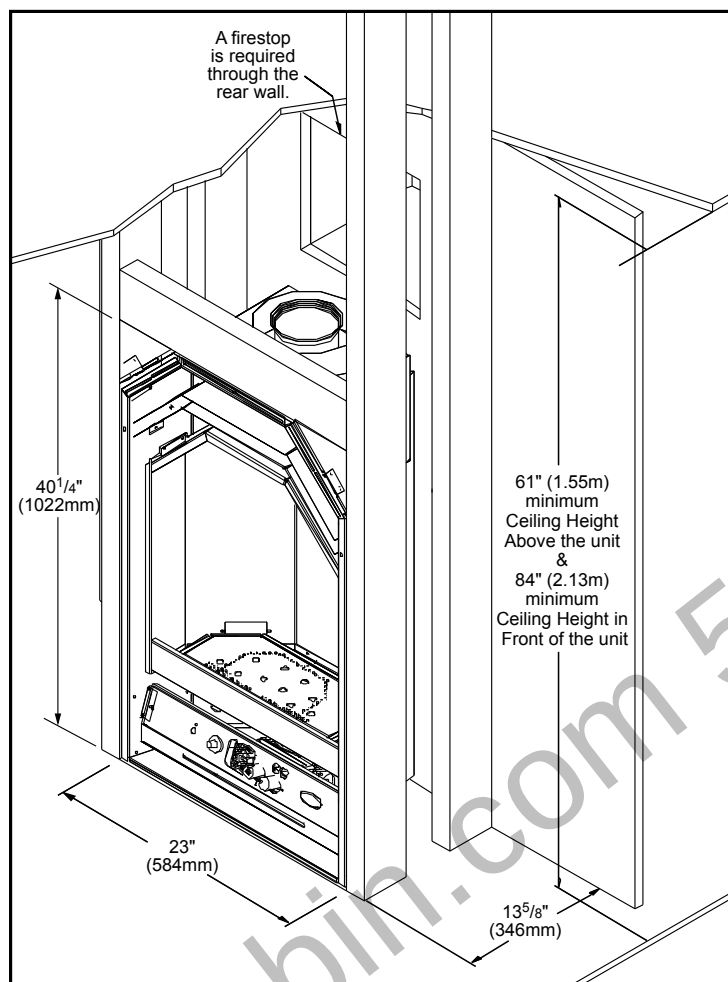
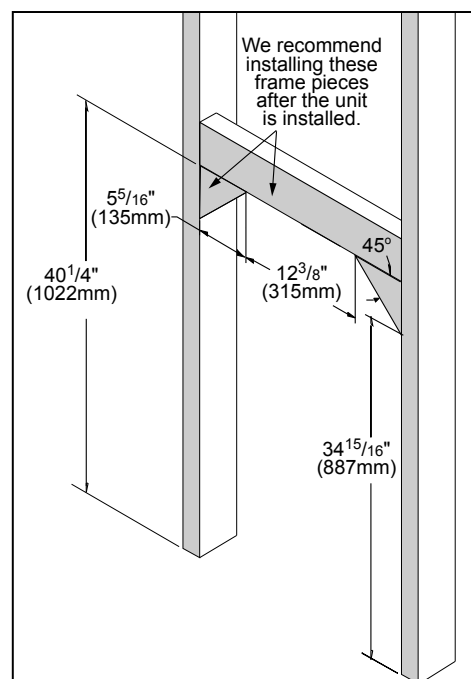

Figure 12. Dimensions for Framing the Firebox.
Figure 13. Dimensions for Top Framing the Firebox.
The fireplace can be located along a wall, raised or at floor level, or in a corner. There are specific framing measurements for each situation. The basic opening should have the dimensions shown in Figure 12 and Table 2. Refer to Figure 1 and Table 3 for the placement of the gas and electrical inlets. When the basic framing is done and the unit is installed the three (3) top pieces of the framing should be installed Figure 13.